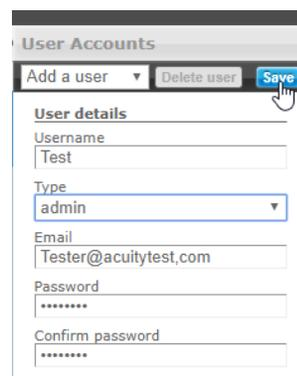

Figure 07: Save New User
5. Click the **Save** button to save the new user data (Figure 07).